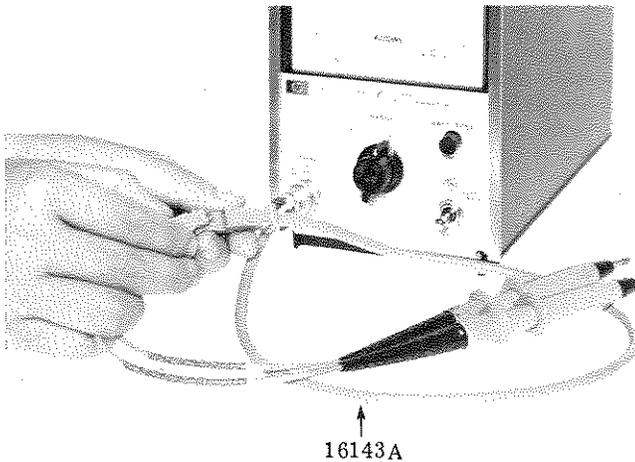

Figure 3-5. Probe Installation
- 2) Plug the probe pins in to the connector such that the off set side faces outwards. Refer to Figure 3-5.